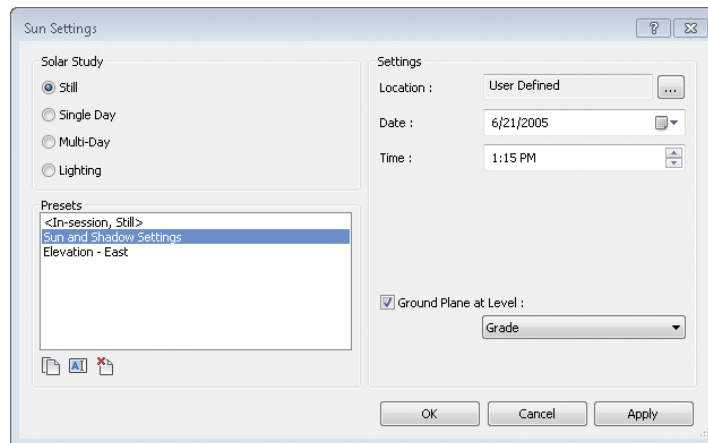

FIGURE 9.12 Sun Settings dialog box
4. Click the Sun Settings button in the Lighting group. The dialog that opens allows you to specify the location of the sun during your rendering. Change the time from 10:15 a.m. to 1:15 p.m. (Figure 9.12), and click OK. Click Render again to see how this iteration changes the rendering.